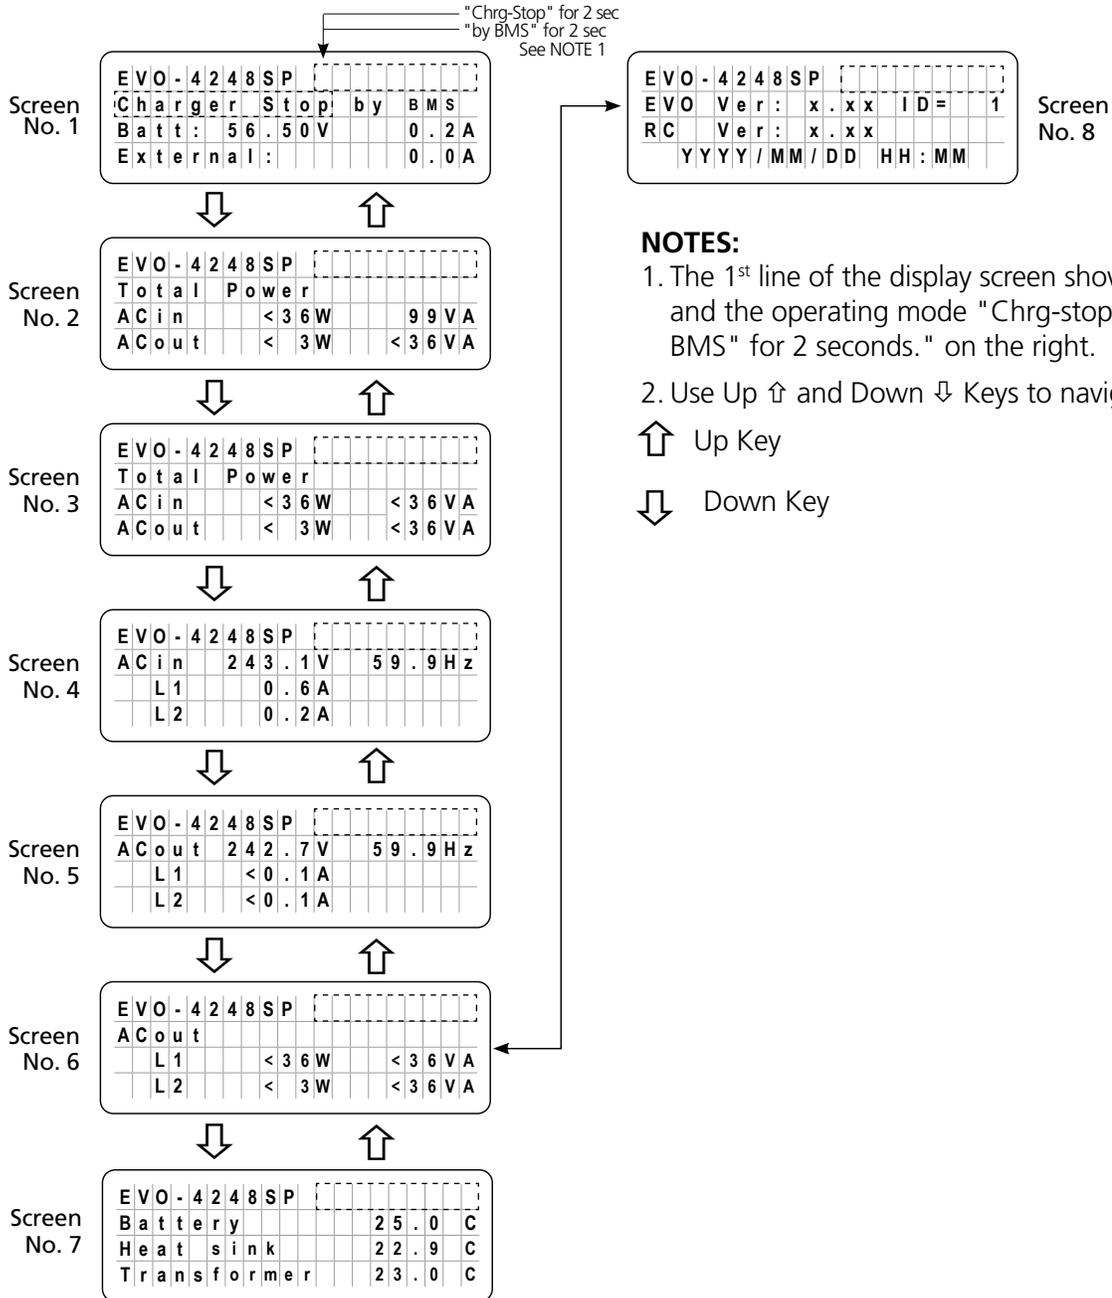

Fig 3.7(c) Menu Map for Charging Mode Screens for Model EVO-4248SP when Charging is Switched Off by the Lithium Ion Battery Management System (BMS)
Menu Maps shown in Figs 3.7(a) to 3.7(c) for various EVO™ models are applicable when parameter "BATTERY TYPE" is set for option "1=Lithium" (See Section 4.4.2.22). Screens shown below will be seen when the Battery Management System (BMS) of the Lithium Battery sends a command (*potential free contact closure signal*) to pins 4 and 5 of the RJ-45 Temperature Sensor Jack on the EVO™ Inverter/Charger (*Temperature Sensor is not required for Lithium Battery*) to stop charging to protect the Lithium Battery from over-charge/ over temperature. Please see details at Section 4.4.2.22.
Menu Maps for this operating condition are shown in Figs 3.7(a) to 3.7(c).
3.6.8.1 Menu Map for Charging Mode Screens for Models EVO-1212F/EVO-1212F-HW/EVO-1224F/EVO-1224F-HW When Charging is Switched Off by Lithium Ion Battery Management System (BMS) [Refer to Fig 3.7(a)]
Fig 3.7(a) Menu Map for Charging Mode Screens for EVO-1212F/1212F-HW/1224F/1224F-HW when Charging is Switched Off by the Lithium Ion Battery Management System (BMS) (Model No. shown is EVO-1212F)
Refer to Fig 3.7(b)
Fig 3.7(b) Menu Map for Charging Mode Screens for Models (i) EVO-2212 / 3012 / 2224 / 4024 and (ii) EVO-2212E / 3012E / 2224E / 4024E when Charging is Switched Off by Lithium Ion Battery Management System (BMS) (Model No. shown is EVO-3012)